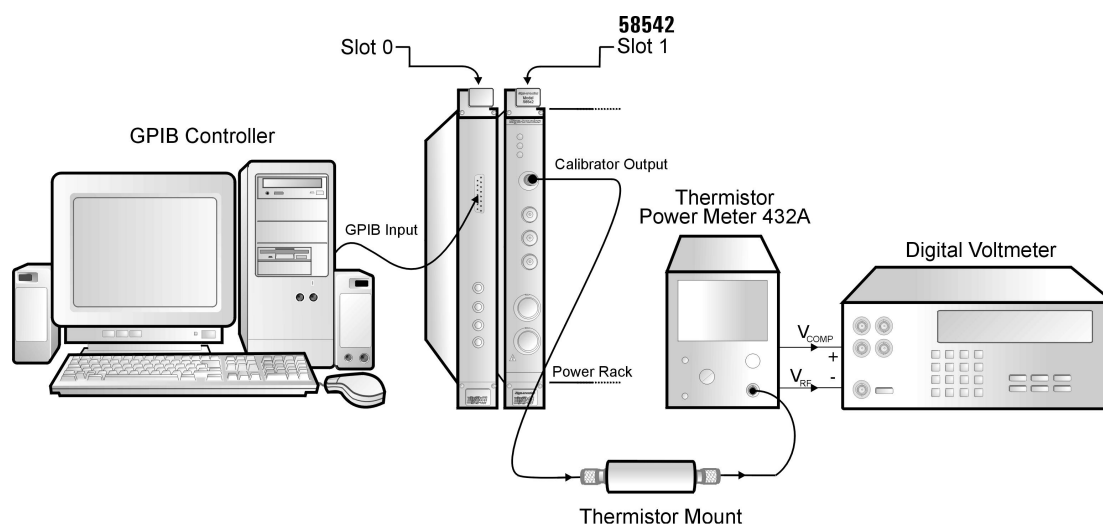

Figure 4-1: Calibrator Reference Level Test Setup
1. Connect the HP 432A to the Calibrator Output on the power meter as shown in Figure 4-1.